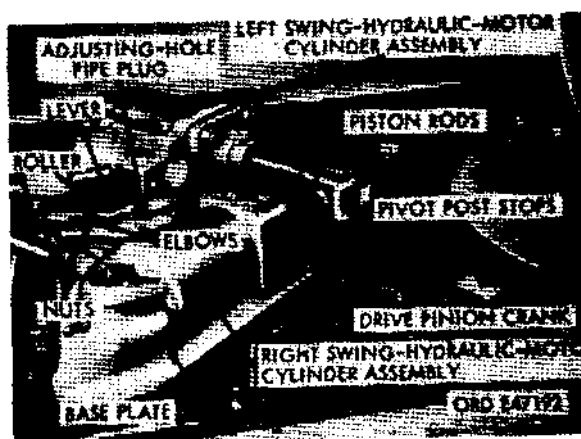

Figure 403. Hydraulic swing motor (M62).
d. *Swing Motor* (fig. 403). The swing motor mounted on the rear of the base plate consists of a pair of double-acting hydraulic cylinders. The front end of both piston rods is connected to the pivot post drive pinion crank. The drive pinion at the lower end of the crank drives the ring gear at the bottom of the pivot post through an idler gear. The rear end of both cylinders is anchored by a pin to a bracket welded to the base plate. A spring-loaded valve spool inside the cylinder bodies, which is actuated by a lever operating against a roller attached to the base plate, controls the flow of hydraulic oil through the cylinder.